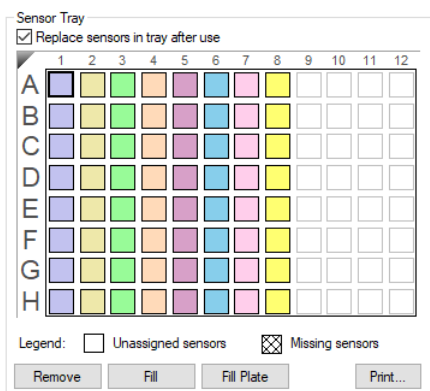

Figure 6-41: Replace Sensors in Tray After Use Check Box
- Optional: After an assay is completed, the biosensors can be returned to the biosensor tray or ejected through the biosensor chute to an appropriate waste container. To return the biosensors to the tray, click the **Replace sensors in tray after use** check box (see Figure 6-41).